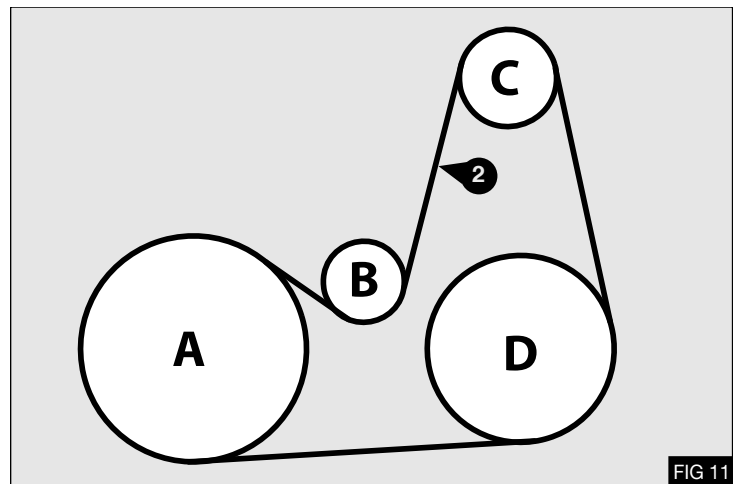

FIG 11
1. Install the drive belt (2) as shown opposite - Fig 11